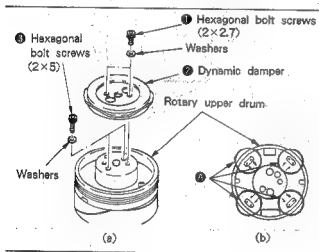

Fig. 7-45.
- 1) Remove the two hexagonal bolt screws ① and remove the dynamic damper ②. (See Fig. 7-45.)
- 2) Remove all eight solders in section ② and confirm that the board and the pins on the bottom can move freely, using tweezers or the like. (See Fig. 7-45.)
- 3) Remove the two hexagonal bolt screws ③. (See Fig. 7-45.)
- 6) Solder the pins in section ②. (See Fig. 7-45.)
- 7) Mount the dynamic damper ② with the two hexagonal bolt screws ①. (See Fig. 7-45.)